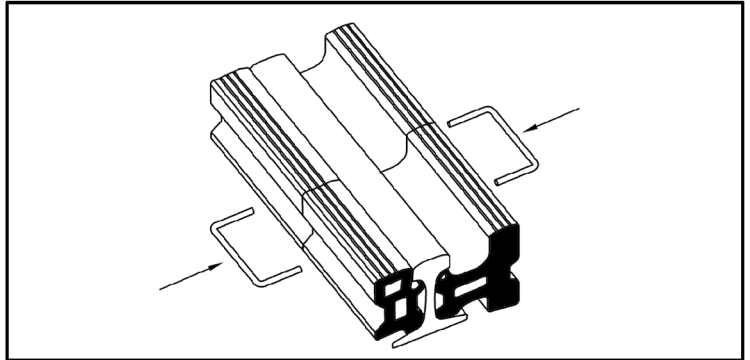

Figure 2
- 2 Fasten the Rubber Interface end to end with staples (Fig. 2)